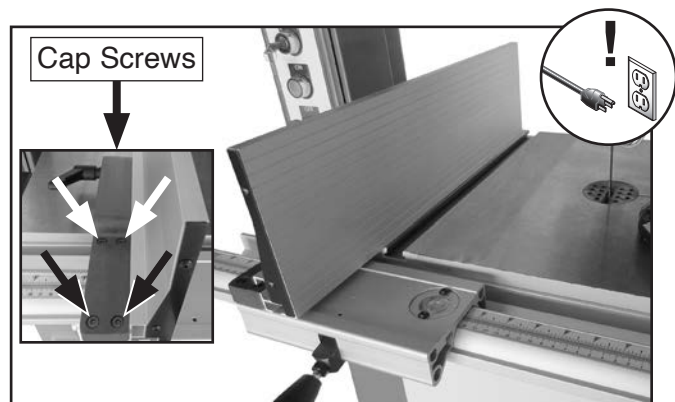

Figure 64. Fence installed next to miter slot for alignment adjustment.
3. Install fence next to miter slot (see **Figure 64**).
4. Loosen four cap screws located to the left of fence face (see **Figure 64**).